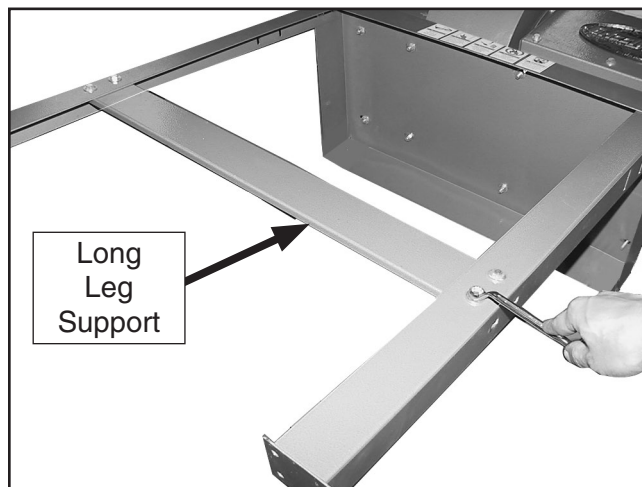

Figure 5. Installing a long leg support.
3. Fasten a long leg support (**Figure 5**) to the two legs with four $\frac{3}{8}$ "-16 x $\frac{3}{4}$ " hex bolts, eight flat washers and four hex nuts.